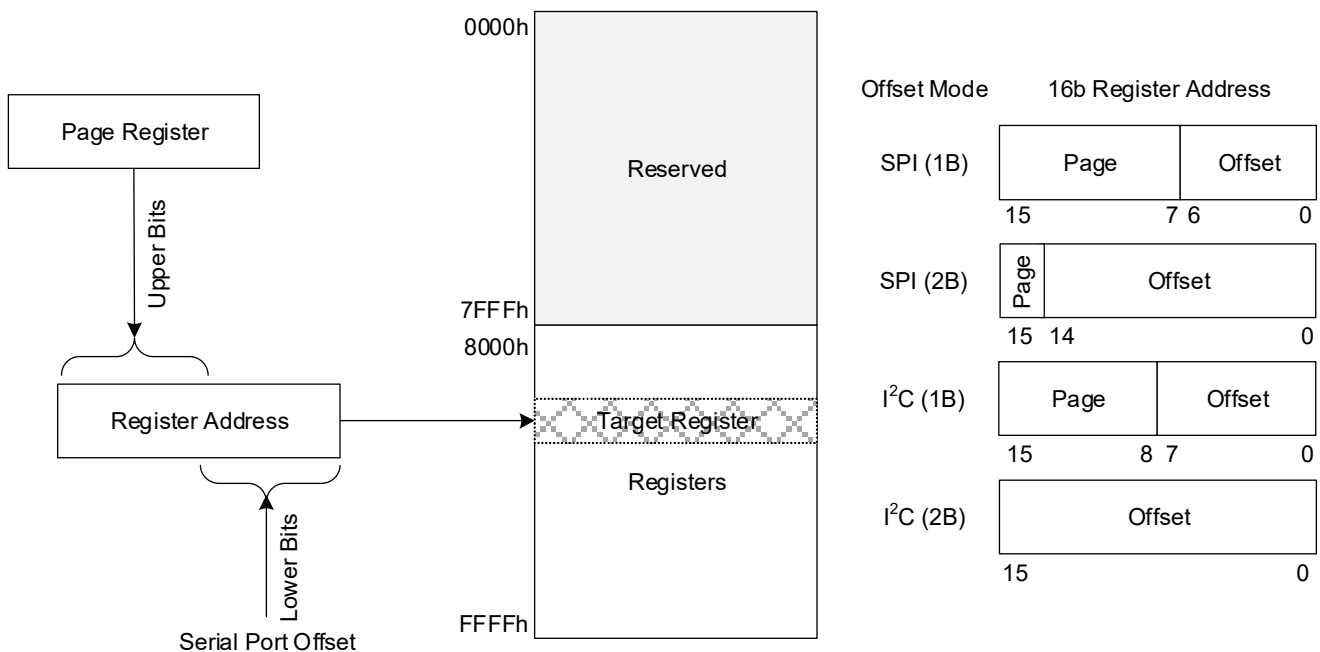

Figure 7. Register Addressing Modes via Serial Port
The user can choose to operate the serial port providing the full offset address within each burst, or to operate in a paged mode where part of the address offset is provided in each transaction and part comes from an internal page register in each serial port. Figure 7 shows how page register and offset bytes from each serial transaction interact to address a register within the RC22112A.
- 1-byte (1B) or 2-byte (2B) offset addressing (see Figure 7)